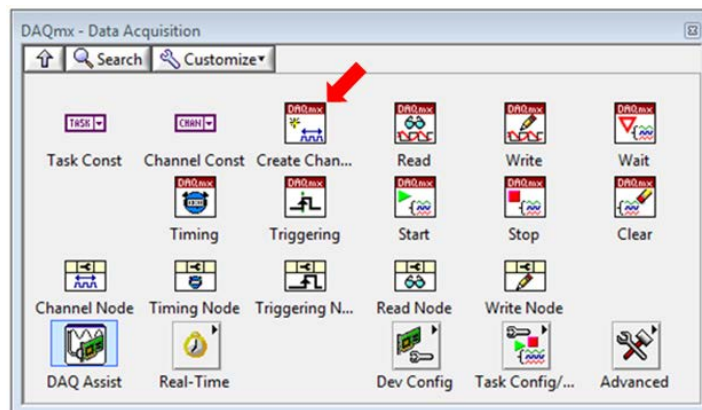
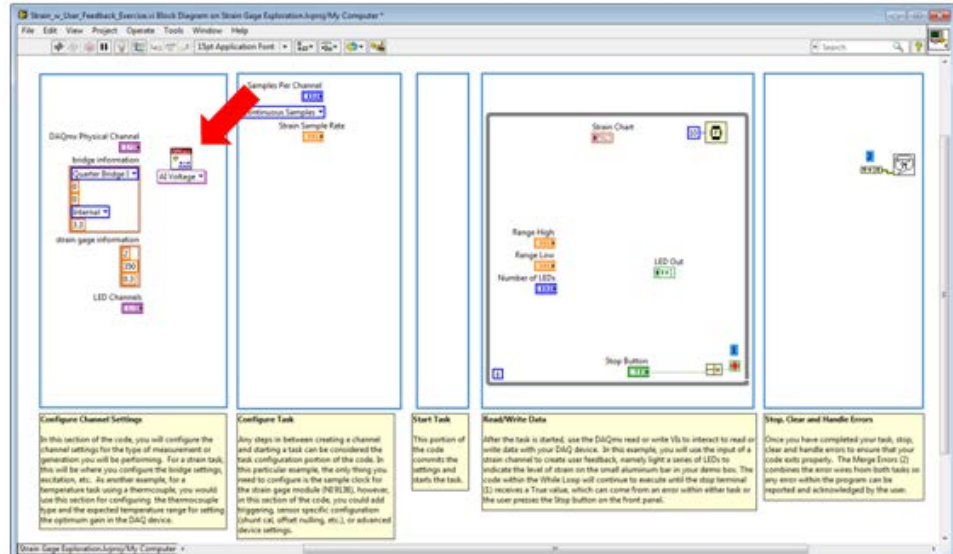

Figure 10. Pinning a palette enables you to click elsewhere in your code with the palette still visible.
Figure 11. The DAQmx Create Channel VI establishes communication with your DAQ device.
22. To start, drag the **NI-DAQmx Create Channel** (red arrow in Figure 10) and place it in the position shown in Figure 11.